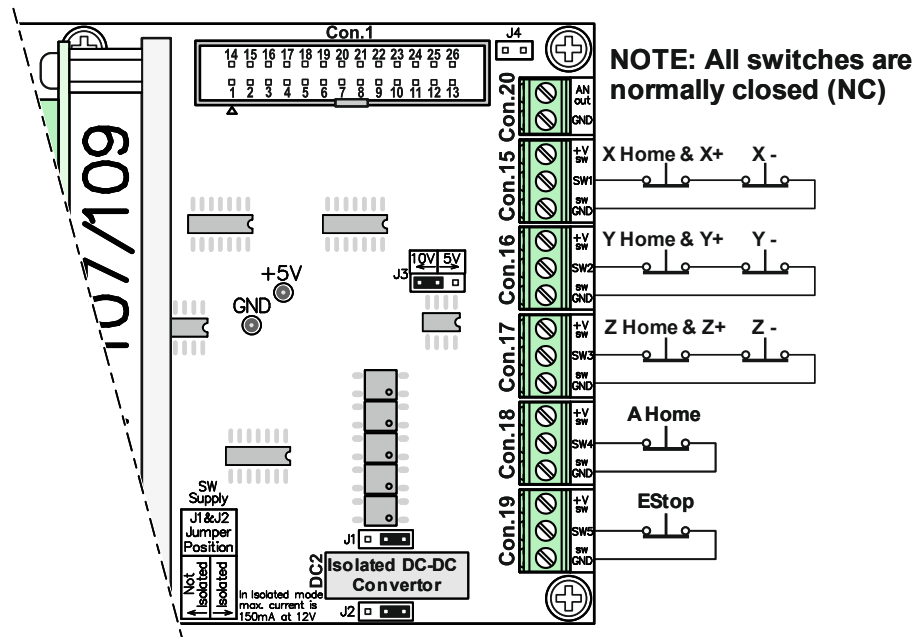

Figure 4.4 Connecting electro-mechanical limit switches to the SMCU4 control unit
The recommended way of connecting the limit switches of the electro-mechanical type is given in Figure 4.4. The given example implies the use of switches of the Normally Closed (NC) type. In this way, it is possible to connect several limit switches to one digital input line. Using the NC type of switch is also better from the safety aspect, considering that a possible disconnection and loss of connection of one of the switches will be detected as a change of logical state on that digital input line.
NOTE: Figure 4.4 shows an option where one switch is assigned two functions, i.e. both the referencing switch function (X home) and the limit switch function (X +).